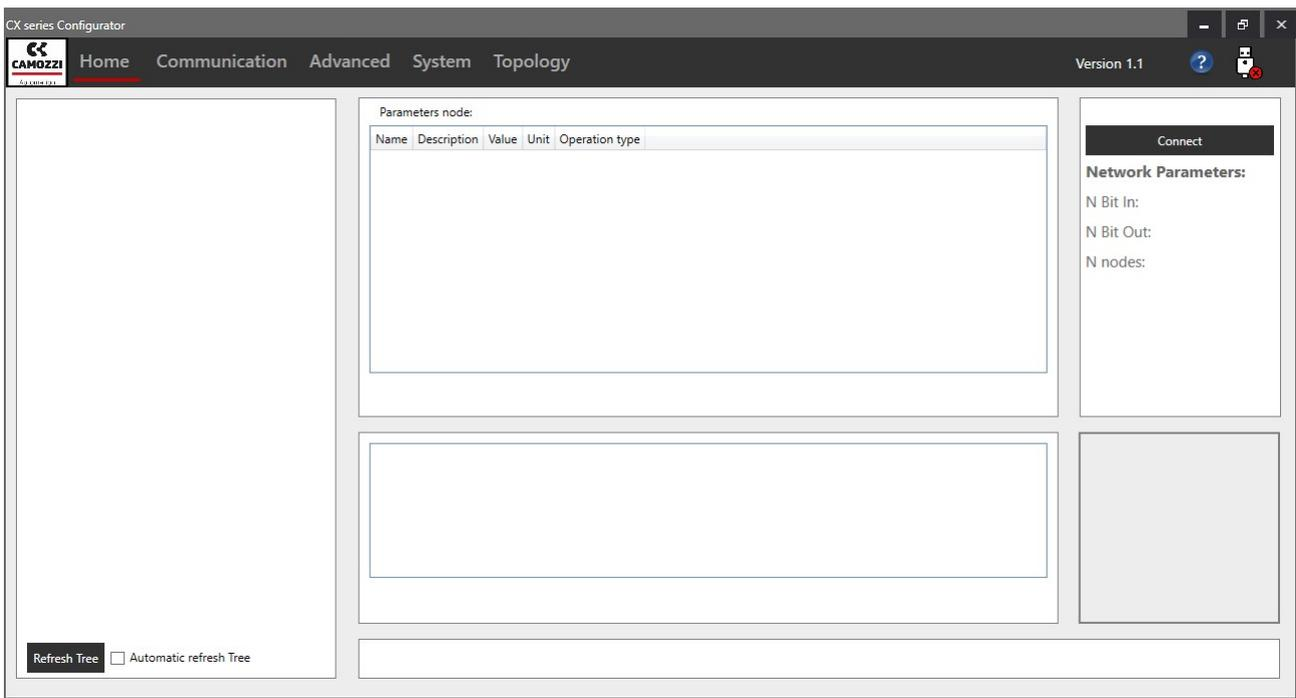
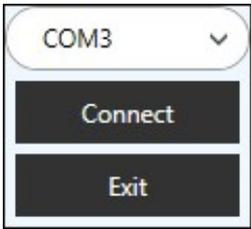

Figure 2: Menu Home.
Figure 3: USB connect window.
- Home: it's the menu shown when the configurator is run (figure 2), contains all basic functionalities for read the hardware configuration.
Connected the USB cable, run the configurator and select the command “Connect” in the upper right part of home menu (figure 2). When a pop-up window appears (figure 3), then select the COM and select “Connect” command.